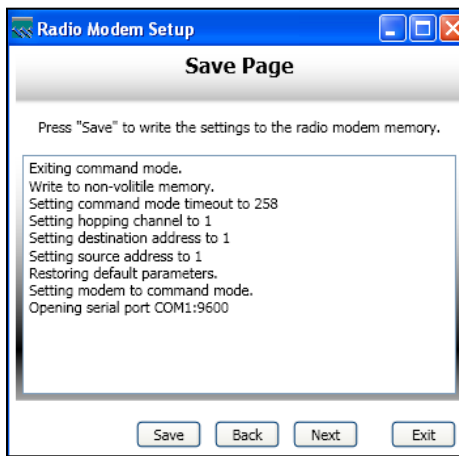

Figure 13. Save Page
7. Configure a Host radio system, shown in Figure 13. Default parameters are recommended.